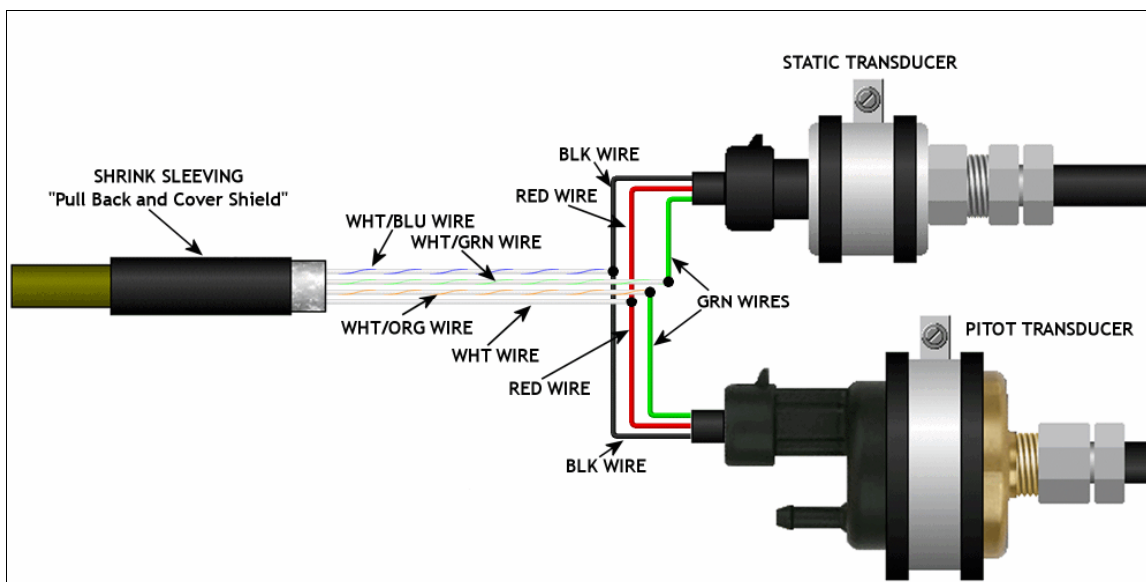

Figure C- 20: Pitot/Static Transducer Wiring.
- ❑ 010 Trim the Pitot/Static "AAA22D22" cable to length. Following Figure C- 20, splice to the transducer harnesses using the following wire splice configuration: